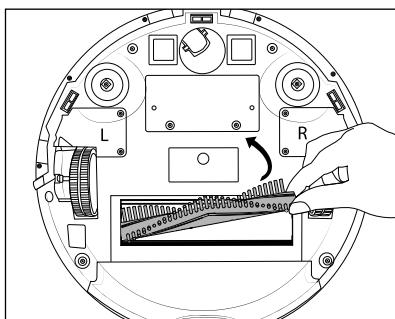

Fig. 15
- ♦ Grasp the rotary brush 18 on the right-hand side, and remove it from the appliance (see Fig. 15). Remove hair and dirt with the cleaning brush 10.